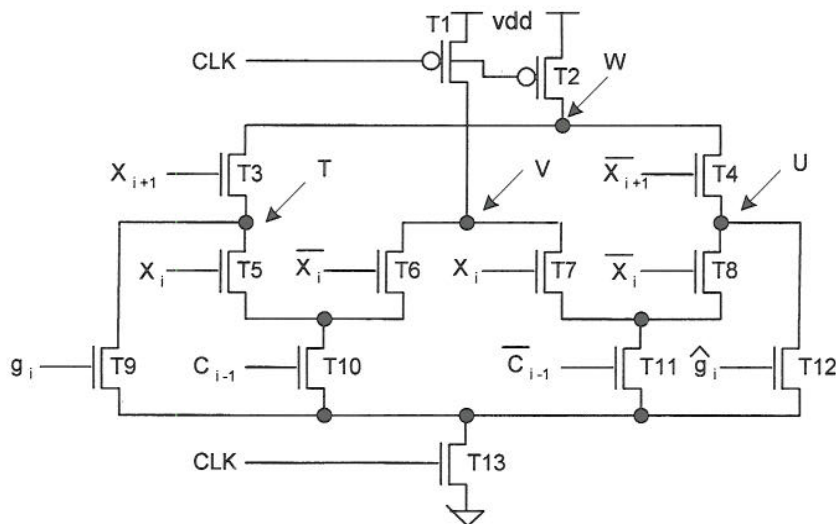

Figure 3.1
- b)  $a_i, a_{i+1}$  and  $b_i, b_{i+1}$  are the  $i^{\text{th}}$  and  $(i+1)^{\text{th}}$  bits of the binary numbers A and B respectively. *Figure 3.1* shows a 2-bit binary adder using a precharge circuit to add the  $i^{\text{th}}$  and  $(i+1)^{\text{th}}$  bits of A and B together.  $c_{i-1}$  is the carry input to the  $i^{\text{th}}$  bit from the adder adding the lower bits together. The signal CLK is the precharge clock. Suppose:
- c) Design the layout of the circuit shown in *Figure 3.1* in the form of symbolic layout or stick diagram. Label your layout by marking all the transistors and signal nodes.